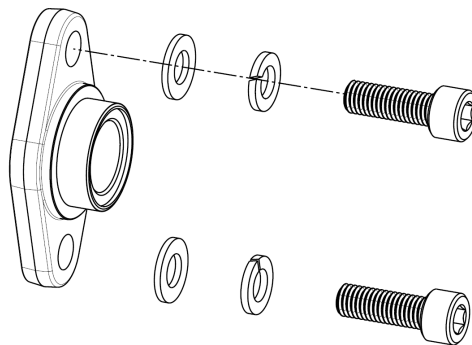

Figure 1 – Economizer Flange (TTS300 shown)
4. Assemble the two (2) M10x30 fasteners and the four (4) M10 washers.
5. Align the economizer valve/flange with the compressor economizer port (refer to Figure 1) and insert the two (2) fasteners.